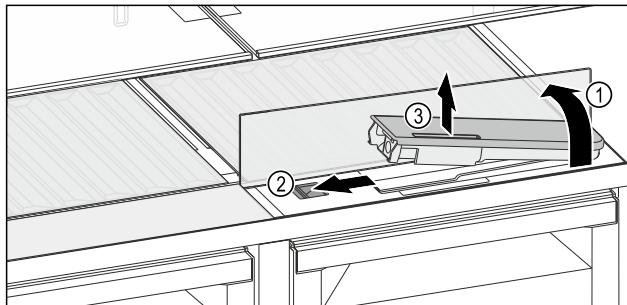

Fig. 140
- Lift the glass panel and fold towards the rear until it clicks into place Fig. 140 (1).
- Slide the slider Fig. 140 (2) to the left.
- Remove the water tank Fig. 140 (3).